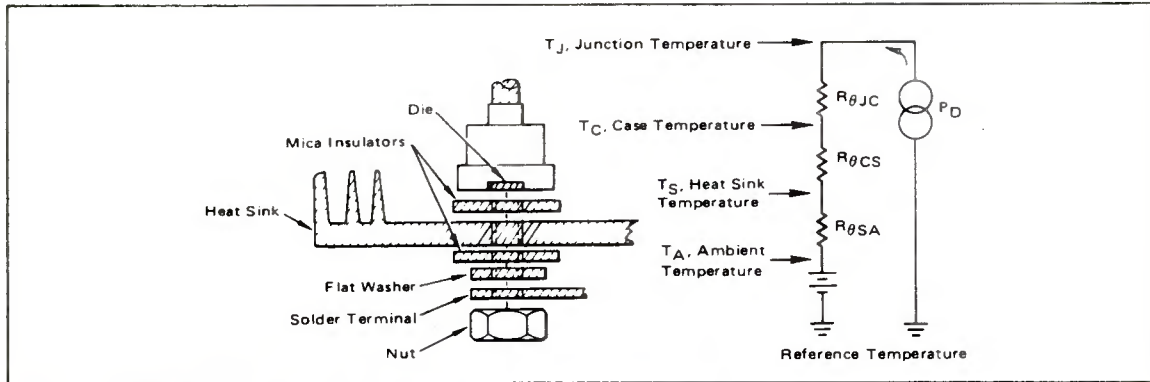

FIGURE A1 — Basic Thermal Resistance Model Showing Thermal to Electrical Analogy for a Semiconductor
An analogy between Equation (2) and Ohm's Law is often made to form models of heat flow. Note that  $\Delta T$  could be thought of as a voltage; thermal resistance corresponds to electrical resistance ( $R$ ); and, power ( $q$ ) is analogous to current ( $I$ ). This gives rise to a basic thermal resistance model for a semiconductor as indicated by Figure A1.